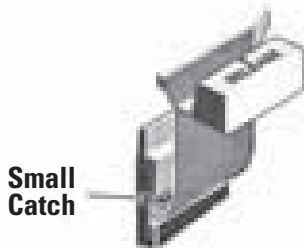

Figure 7
SAFETY LATCH -(See Figure 7)
1. Press down on the small catch behind the safety latch and press or tap the latch out of the, »Tee« slot in the tank (see Figure 7).